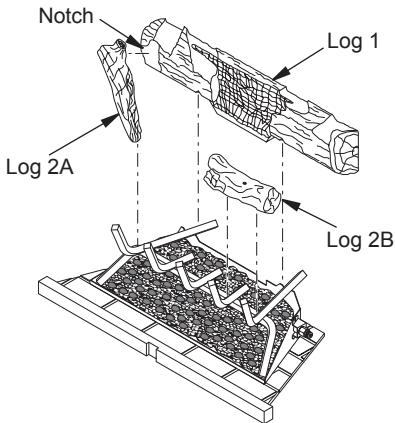

Figure 29 - Installing Logs 1, 2A and 2B
1. Place large back log (log 1) onto grate making sure notches rest over grate (see Figure 29).
2. Insert lower end of log 2A between the first two grate fingers and position the upper end into the notch on the front of log 1. See Figure 29. Place log 2B on the front right side of grate as shown in Figure 29.